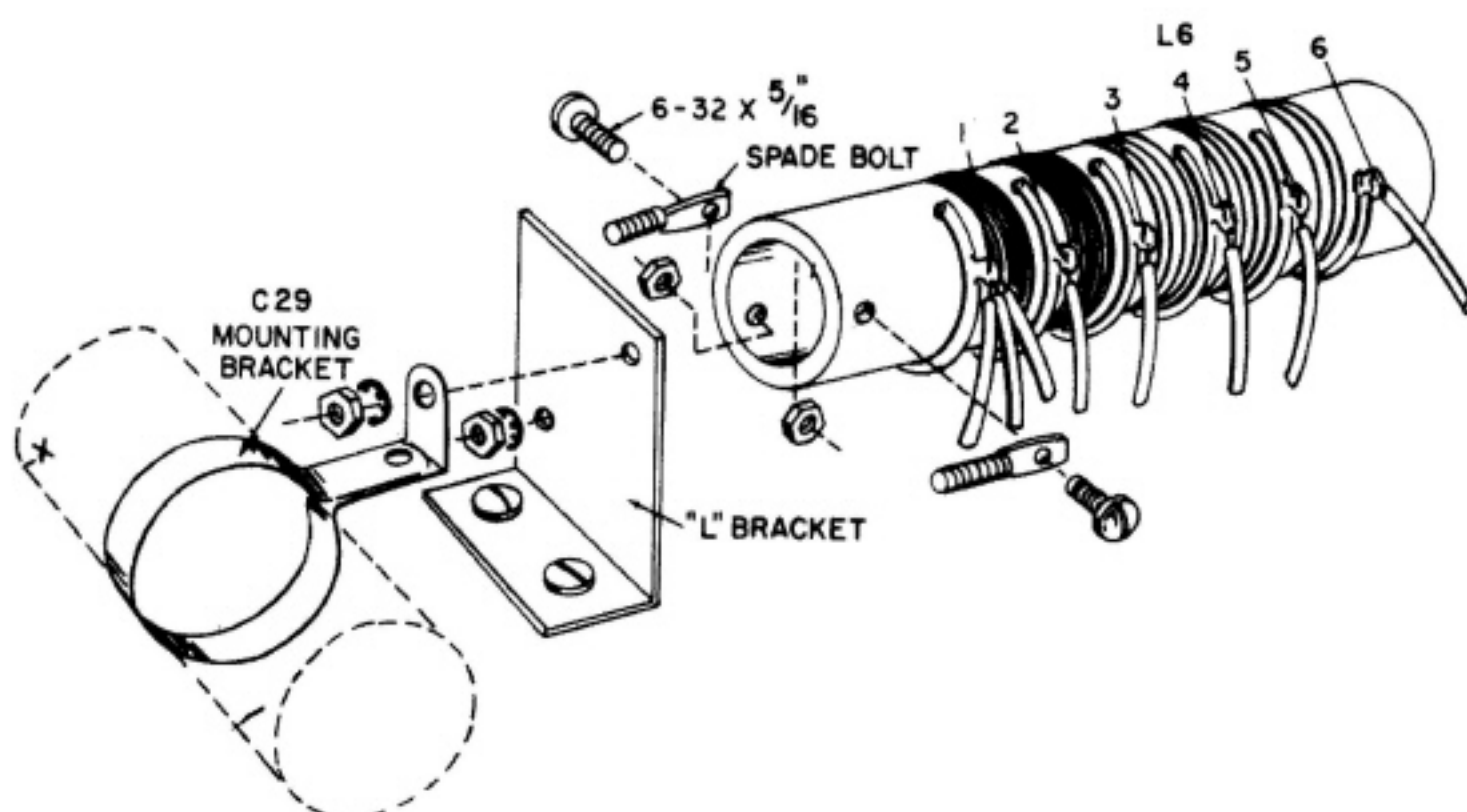

FIGURE 13
SEE FIGURE 13
- ☐ Fasten spade bolts to ceramic form of L6. See Figure 13. Note position of spade bolts. Use 6-32  $\times$   $\frac{5}{16}$ " screws and nuts. Insert screw through hole in spade bolts, then through hole in ceramic coil form.
- ☐ Mount L6 and C29 (20 $\mu$ f, 600V capacitor) on "L" bracket. See Figure 13. Note position of terminals on L6. They should point to rear of chassis. Insert spade bolts in holes in "L" bracket. Put lockwasher and nut on bolt nearer C16 and tighten nut securely. Note angle of clamp on C29. The red lead should point to C16. Put C29 bracket over other spade bolt. Use lockwasher and nut, and tighten.